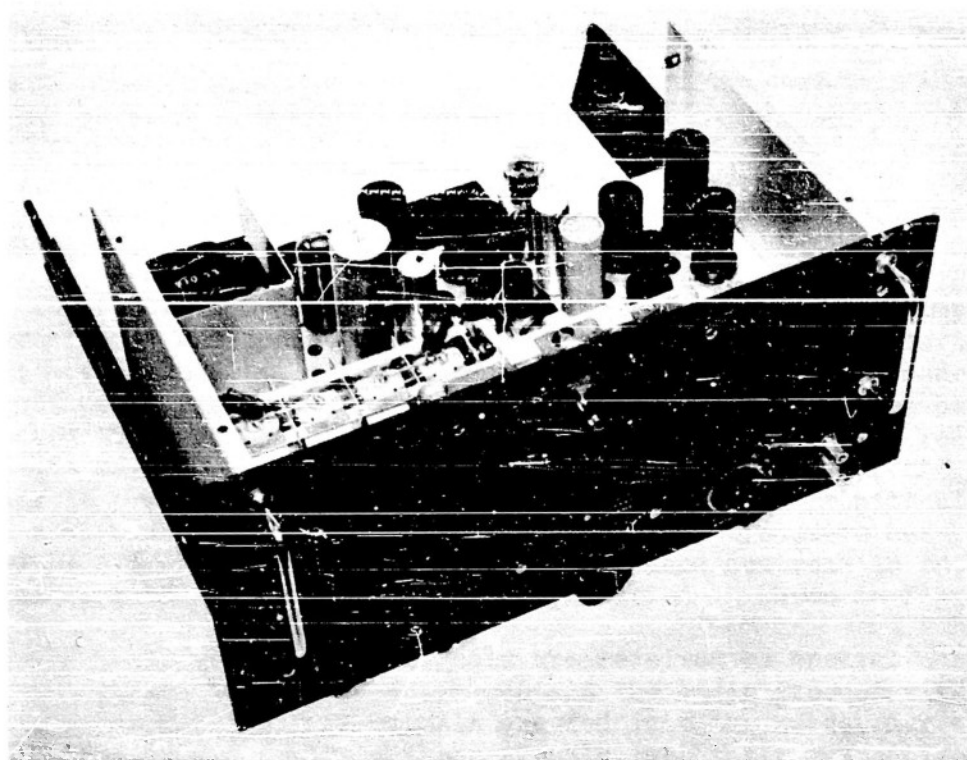

Figure 13 - Audio Oscillator
2.12 Audio Oscillator See Figure 13